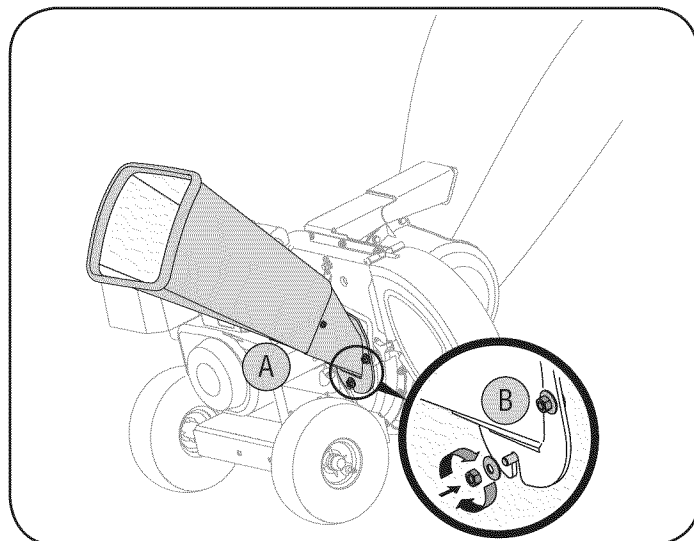

Figure 6
2. A. Align the chipper chute over the weld studs, so the slot in the bottom of the chute is facing down. See Figure 6.